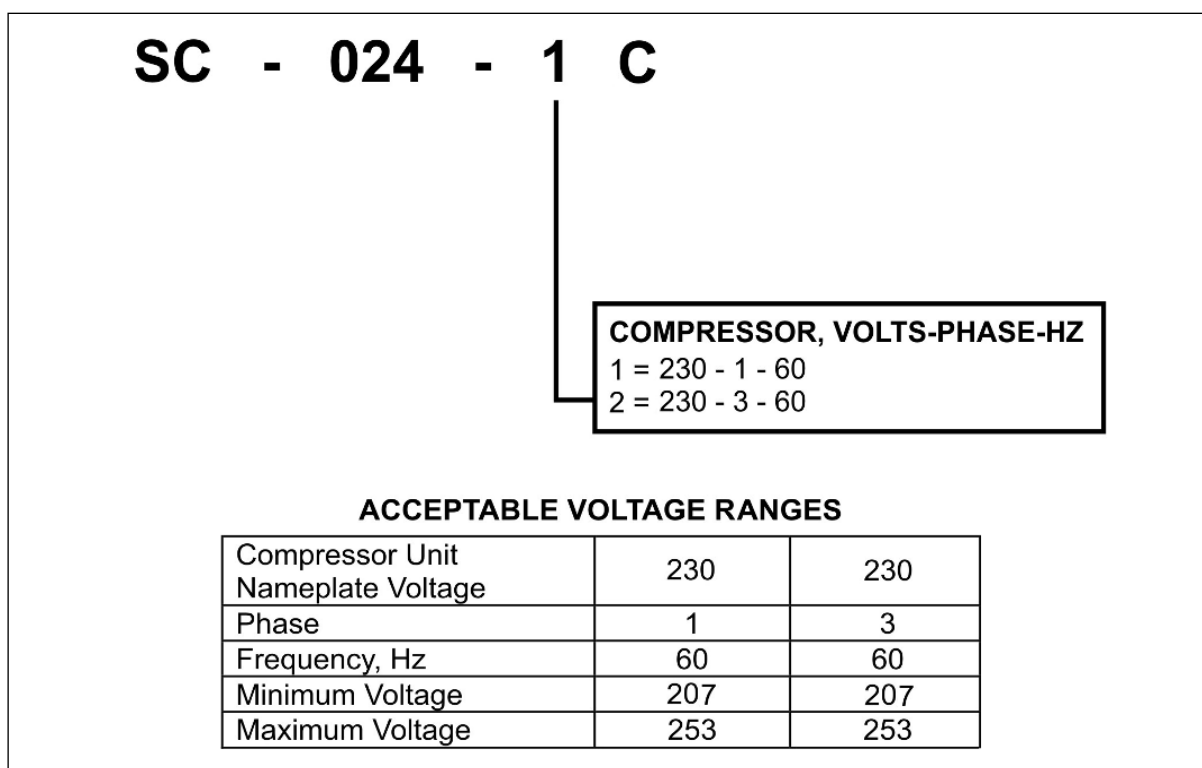

Figure 36. Compressor Unit Voltage Information
After setting the remote (wall) thermostat system switch to the “OFF” position and the thermostat fan switch to the “AUTO” position, proceed to check the supply voltage at (1) the line terminals to the breaker/disconnect; 2) the system side of the breaker/disconnect, and 3) the line-side of the transformer. Verify the proper voltage rating for the system. Reference Figure 36.
- 4. Check incoming power supply voltage** to determine whether it is within acceptable voltage range. (See Figure 36)
- 5. Check voltage at compressor unit terminals** to determine whether it is within acceptable voltage range. (See Figure 36)